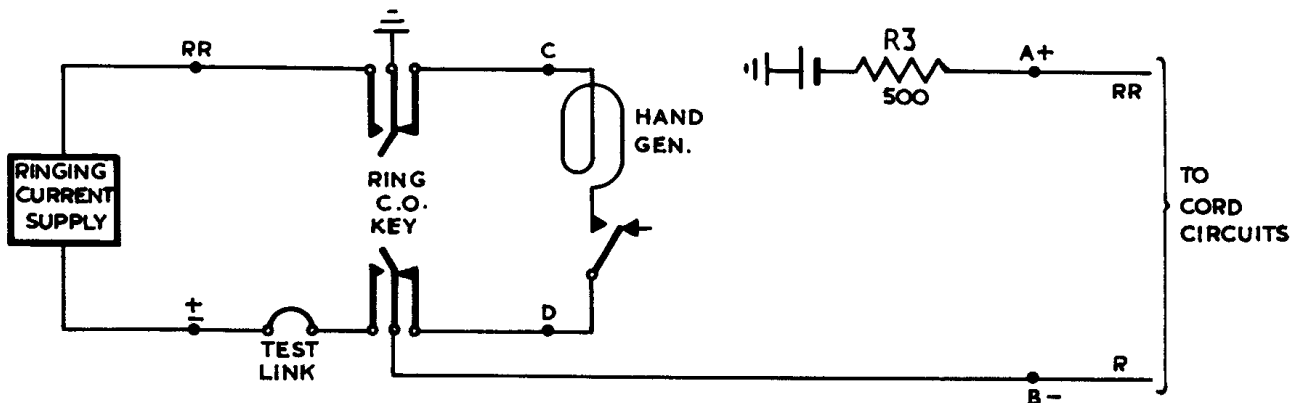

FIG. 26. RING SUPPLY CIRCUIT.
9.1 Ringing Current Supply. Each lamp signalling cord type P.M.B.X. is provided with a locking type push-key, which permits a changeover from a ringing supply to a hand generator (Fig. 26).